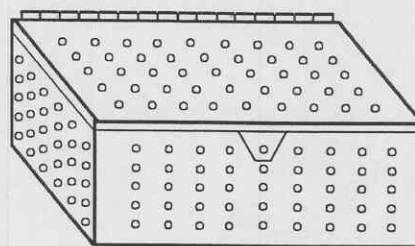

Figure 2-28. Sterilization case.
(1) Place the clean handpiece(s) and cutter(s)/bur(s) into the sterilization case (fig 2-28) either wrapped or unwrapped in accordance with unit procedures. If wrapping is required, two double thicknesses of number 140 thread count wrappers are recommended.
(2) Set the sterilizer for 132° - 133°C (270° - 272°F).
(3) Set the exposure time for 4 minutes (wrapped or unwrapped).
(4) Set the drying time for 5 minutes minimum.